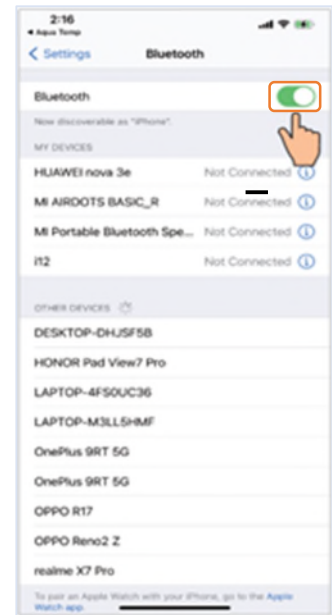

Fig. 16
10. Select 'OK' to allow Bluetooth permission (1) if requested. Bluetooth will be used during the pairing process to make a temporary connection to the module.
11. Select 'Settings' (2) to enter your iOS Bluetooth setting interface and follow the necessary prompts to allow Aqua Temp to use Bluetooth [Fig. 16].